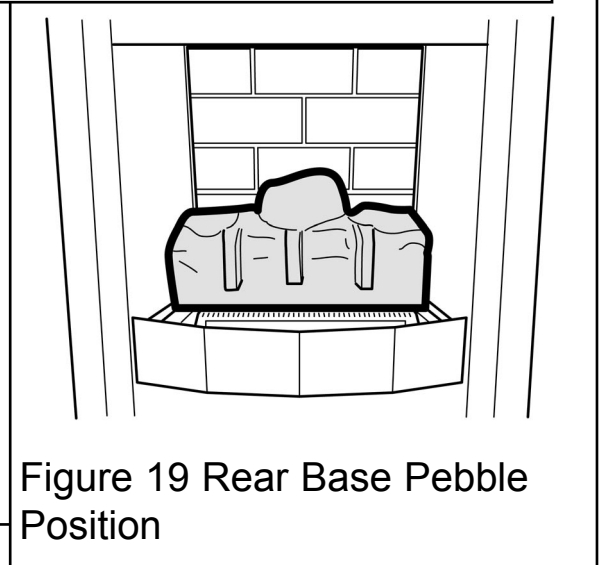

Figure 19 Rear Base Pebble Position
1. Place the rear base pebble in the firebox. It should rest on the ledges at the sides and back of the firebox and its rear face should touch the rear ceramic wall. See figure 19.